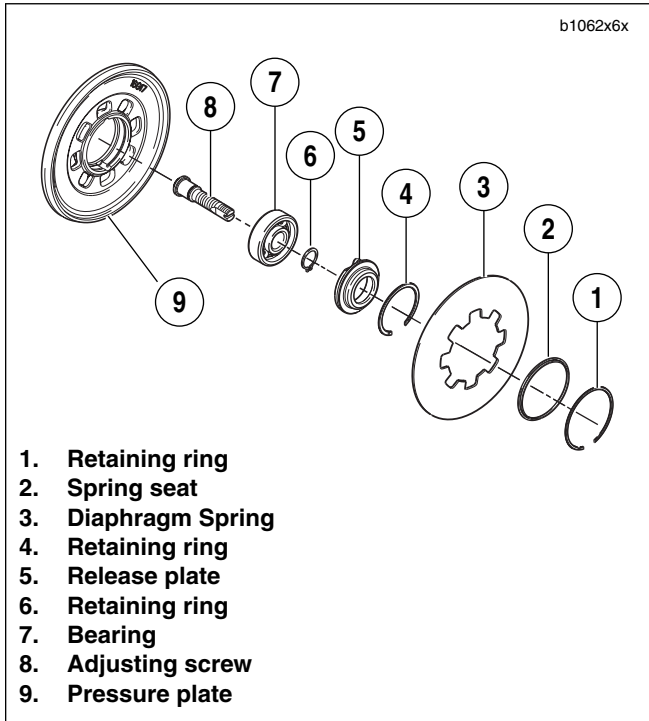

Figure 6-14. Pressure Plate Assembly
See Figure 6-14. Turn compressing tool handle only the amount required to release spring seat and remove snap ring. Excessive compression of diaphragm spring could damage clutch pressure plate.
5. See Figure 6-14. Remove pressure plate assembly.